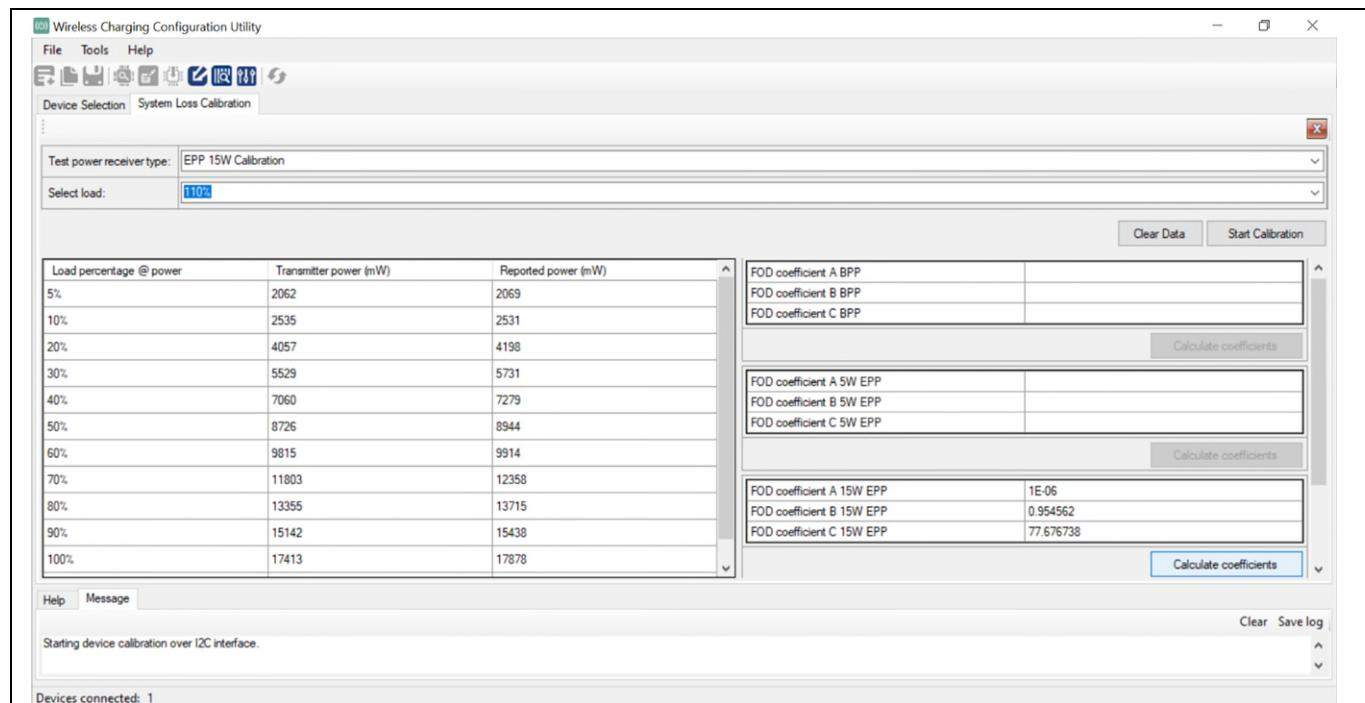

Figure 30 System loss calibration interface through Configuration Utility for coefficient calculation
15. Click **Calculate coefficient** button to calculate and display loss curve coefficients. Figure 30 shows the coefficients calculated for the EPP15 test power receiver.